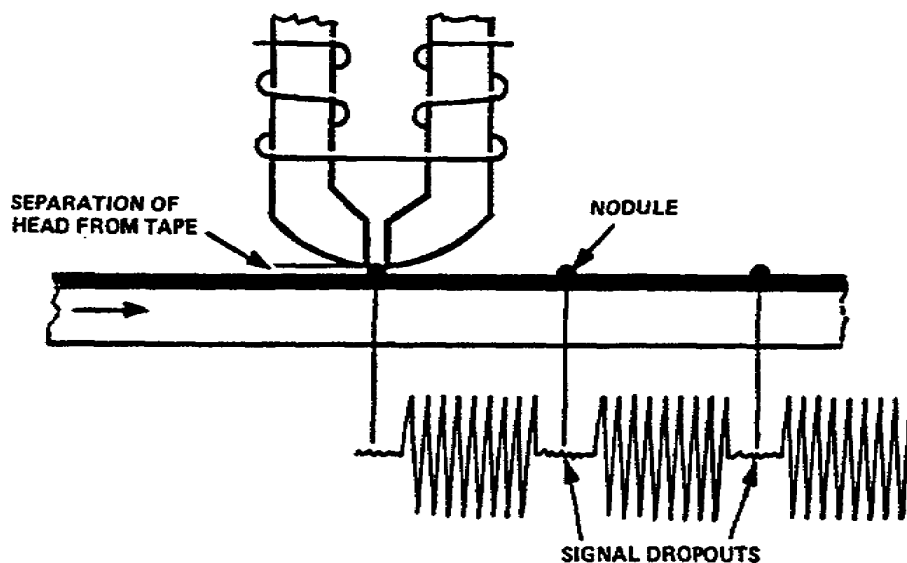

Figure 1-4. Effect of surface defects
a. One of these techniques is to use frequency modulation (FM) for recording the signal information. The FM technique solves the problem of bandwidth. The largest frequency span that can be accommodated by direct recording is 10 octaves (15Hz - 15KHz). Since the video signal has a span greater than 18 octaves (0 - 4mHz), direct recording is not practical.
5. The constant level FM can be amplified and limited in playback to reduce the effect of signal dropout. Signal dropout is due primarily to tape surface defects. These tape surface defects result in poor contact between the head and tape resulting in substantial loss of signal (fig 1-4). Another technique is to allow the head to penetrate or intimately contact the tape.